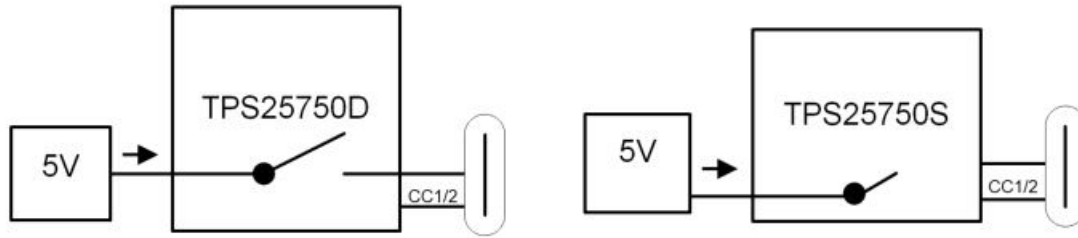

**Figure 10-3. Power Source and Sink configuration with 5V DC and Battery Charger (BQ)**
Figure 10-3 shows the configuration where the a 5-V DC is connected to the source path and a Battery Charger (BQ) is connected to the sink path.